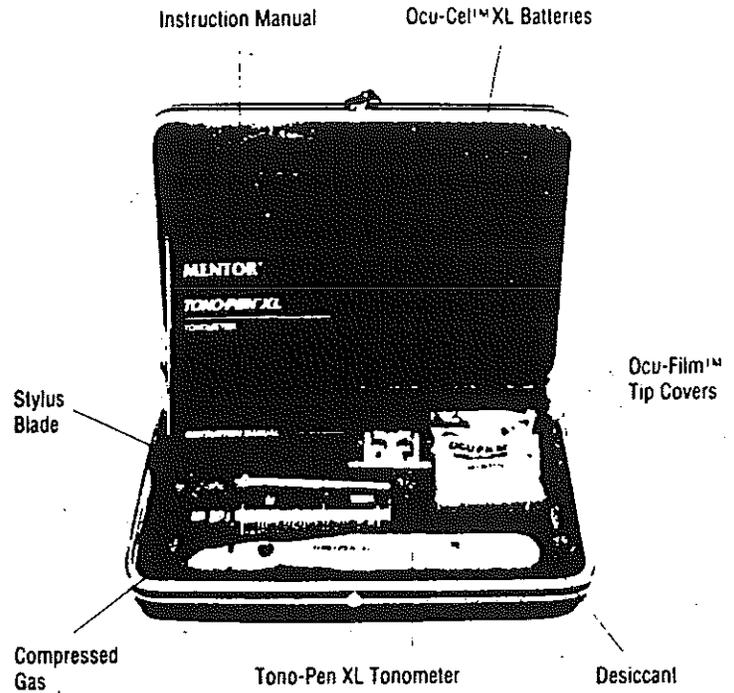
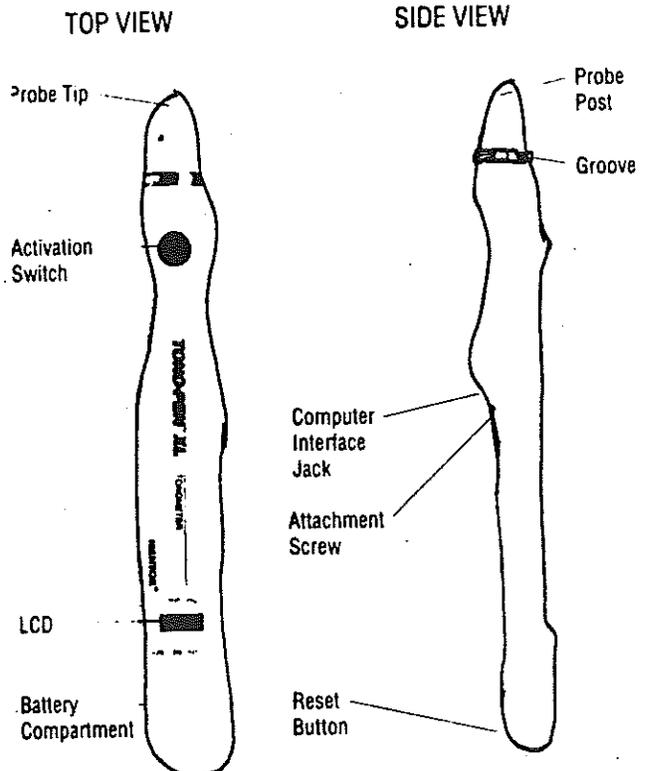

Figure 1 - Storage Case Layout
Figure 2 - Instrument diagram
- B. Check for missing items (see Figure 1).
- E. Slide a new Ocu-Film Tip Cover over the Tono-Pen XL unit's stainless steel probe until the Ocu-Film ridge is seated in the groove (see Figure 2). The Ocu-Film Tip Cover should fit snugly over the probe tip (see Figure 3).
1. Locate the battery compartment (see Figure 2). Open the battery compartment by inserting the stylus blade (see Figure 1) in the end slot. Push gently and remove the loosened battery cover (see Figure 4).
- A. Gently depress and then release the reset button (see Figure 2) located inside the opening labeled "RESET" on the underside rear of the Tono-Pen XL body. To press the RESET button, use the stylus blade (see Figure 1) or any pointed, unbreakable object such as a ball point pen. **DO NOT USE ANY EASILY BROKEN OBJECT SUCH AS A MECHANICAL PENCIL.**
4. To help prevent build-up of debris around the probe post (see Figure 2), spray the probe tip with compressed gas (see Figure 1) before the first use of the day (see Section VIII, A, 2 for procedure).